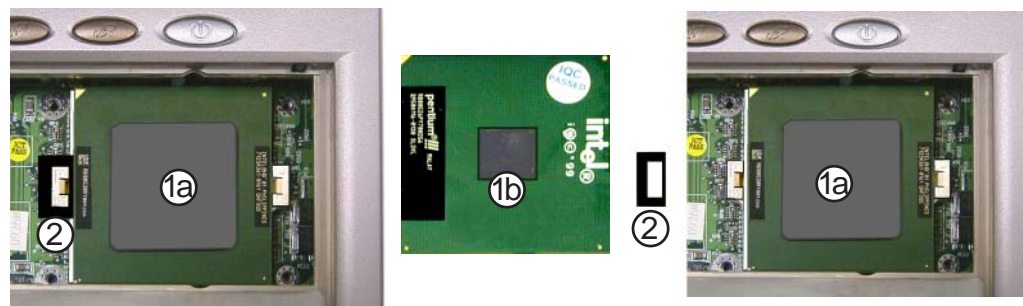

figure 2-10a
1. Remove the CPU lock from the CLOSE slot of the CPU socket (figure 2-10a).